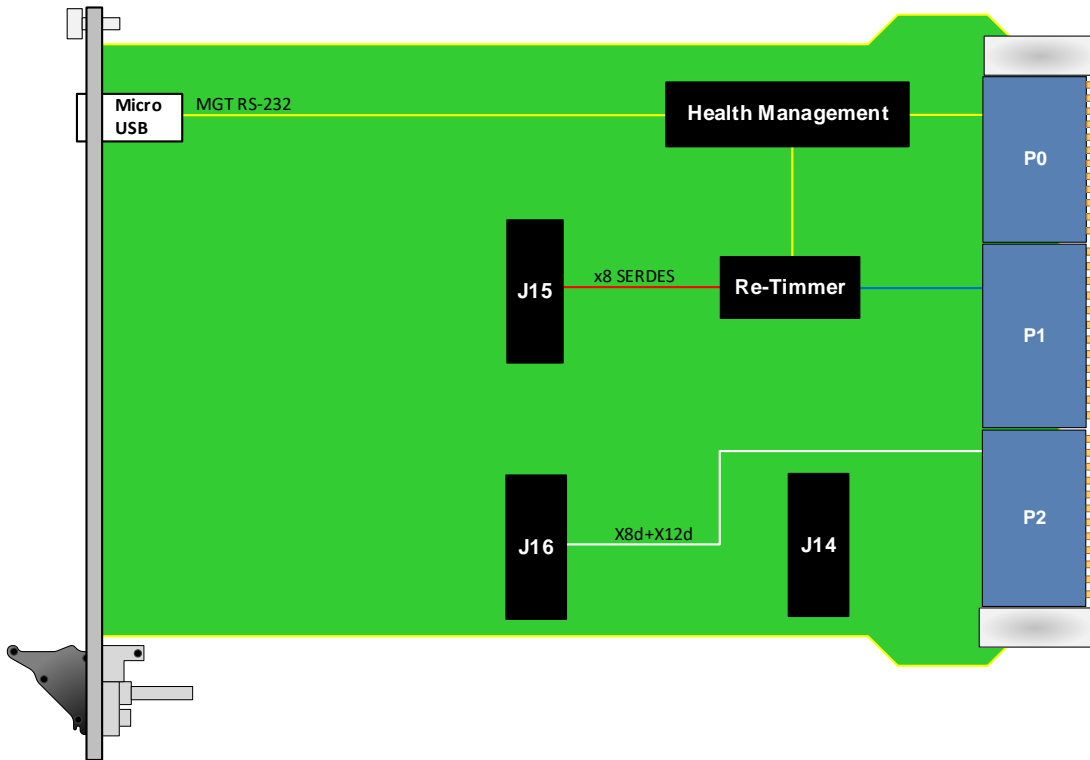

Figure 4: VPX102 Functional Block Diagram, Option D=2
- P2w1-X24s+X8d+X12d (Figure 4)